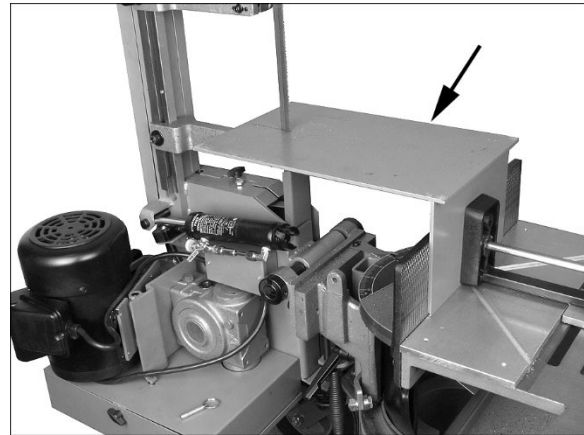

Figure 7-13: vertical cutting platform
4. Install cutting platform (Figure 7-13). Push vise jaw against it, and clamp tightly.